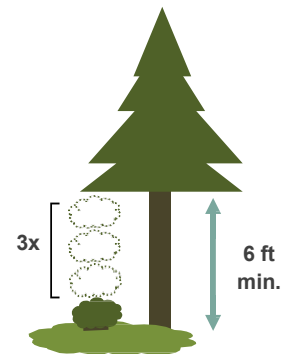

Figure 2. Eliminate ladder fuels by creating vertical clearance.
- Remove all shrubs from around the base of trees. If not possible, ensure the vertical space between the lowest branches of the tree and the top of an underlying shrub is at least three-times the height of the shrub (Figure 2).